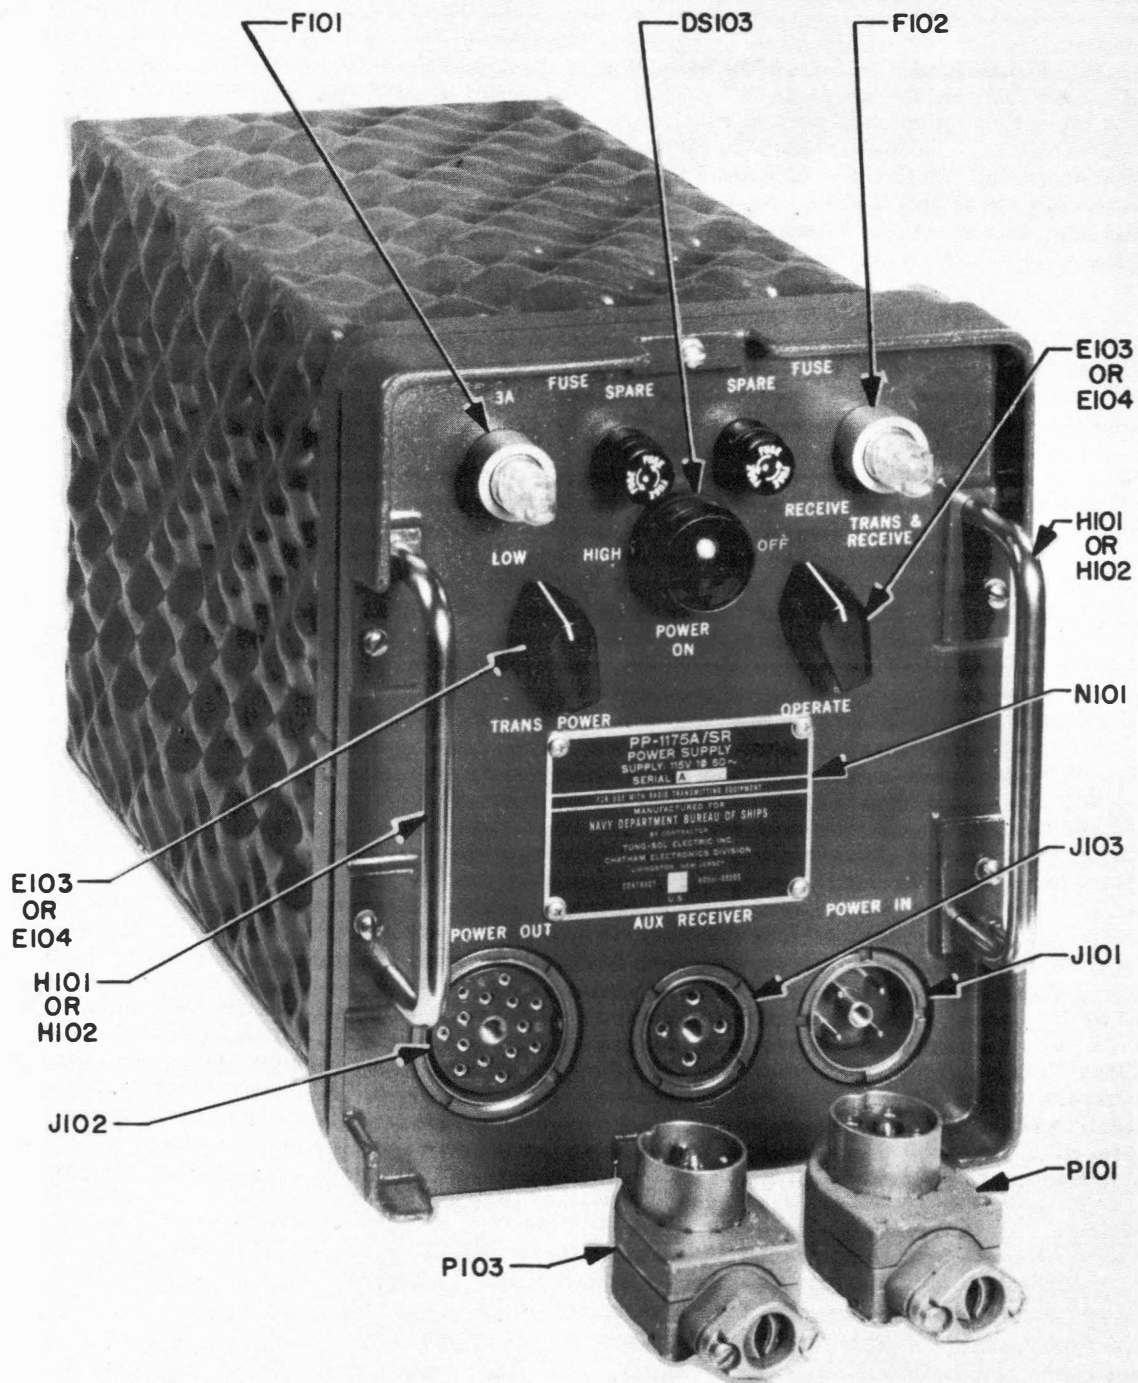

Figure 5-1. Power Supply PP-1175A/SR, Assembled
b. REPLACEMENT OF PARTS. - A list of parts to maintain the unit in an operational condition during its service life is included in table 6-1. Symbol designations are utilized as a cross-reference of parts listed in the schematic diagram (figure 3-2), parts layout photographs (figures 5-1 through 5-9), and the Maintenance Parts List (table 6-1). When replacing parts observe the precautions given below.
(1) TAGGING LEADS. - Tagging leads is essential to assure that correct rewiring will be made when a part is replaced. Before unsoldering any leads, tie together the leads that are attached to each part. Use small tags or short pieces of adhesive tape to identify every lead that is to be removed.
(2) PARTS AND SUBSTITUTIONS. - When damaged parts must be replaced, refer to the Maintenance Parts List, Table 6-1, and use only identical parts for replacement. If identical parts are not available and the damaged component is beyond repair, a substitute must be made. The part substituted must have identical electrical properties and must be of equal or higher voltage and current rating.
(3) LOCATION. - Relocation of substituted parts may cause hum and is not recommended.
(4) MOUNTING. - Mount the new or replaced part in the same mounting as that formerly occupied by the damaged part. Fasten all mountings securely.
(5) SOLDERING. - Before soldering any connection, carefully scrape all parts that will be touched by the solder, until all traces of rust, corrosion, paint or varnish are removed. Tin all surfaces to be soldered. Wrap the wire around the lug to obtain mechanical support. Use a small amount of solder to make the connection and use sufficient heat to make the solder flow evenly around the tinned surfaces.